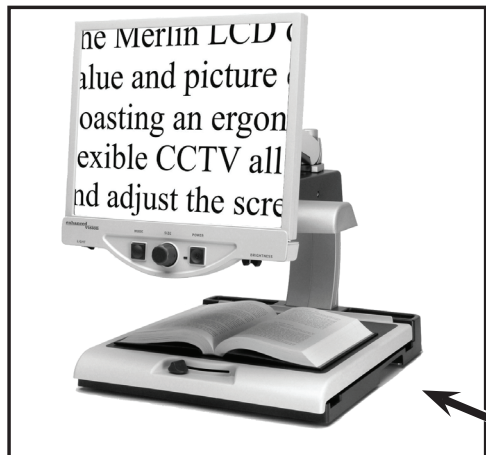

Figure 1
1. Find a steady and level location, such as a table or desk, where you will be comfortable using Merlin LCD. Carry the unit only by the two recessed handles on the side of the base for a secure grip. **Do not lift the unit by the LCD monitor arm.** Place it on the table or desk (see Figure 1).